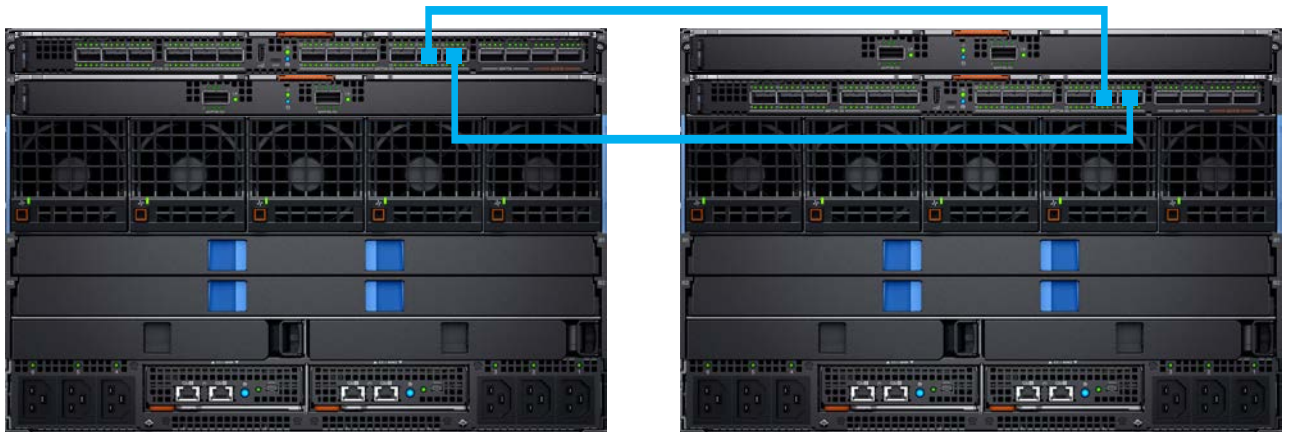

Figure 5 IOM placement – 2 x MX9116n in different chassis
- For VLTi cabling of different IOM placements, see Figure 5, Figure 6, and Figure 7.